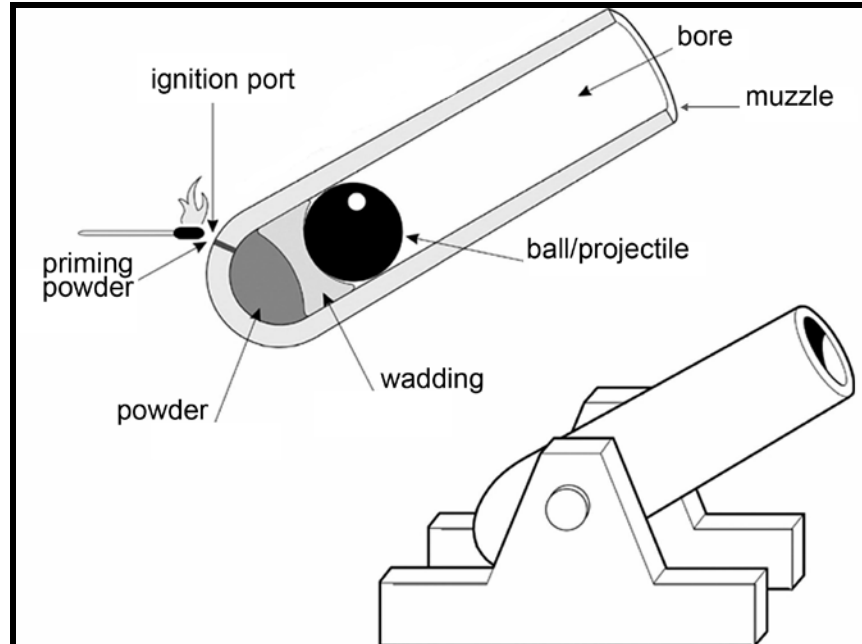

Figure 1. Cannon
- a. People in the Middle Ages quickly learned to use black powder to launch balls or projectiles from a cannon. They did this by igniting the powder behind the ball or projectile in a cannon (Figure 1).